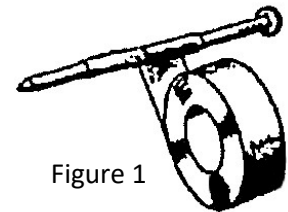

Figure 1
- ✎ Wrap about 1 ½ inches of a 4-inch nail with two layers of electrical tape as shown in *Figure 1*. This will be the SHAFT of the motor.